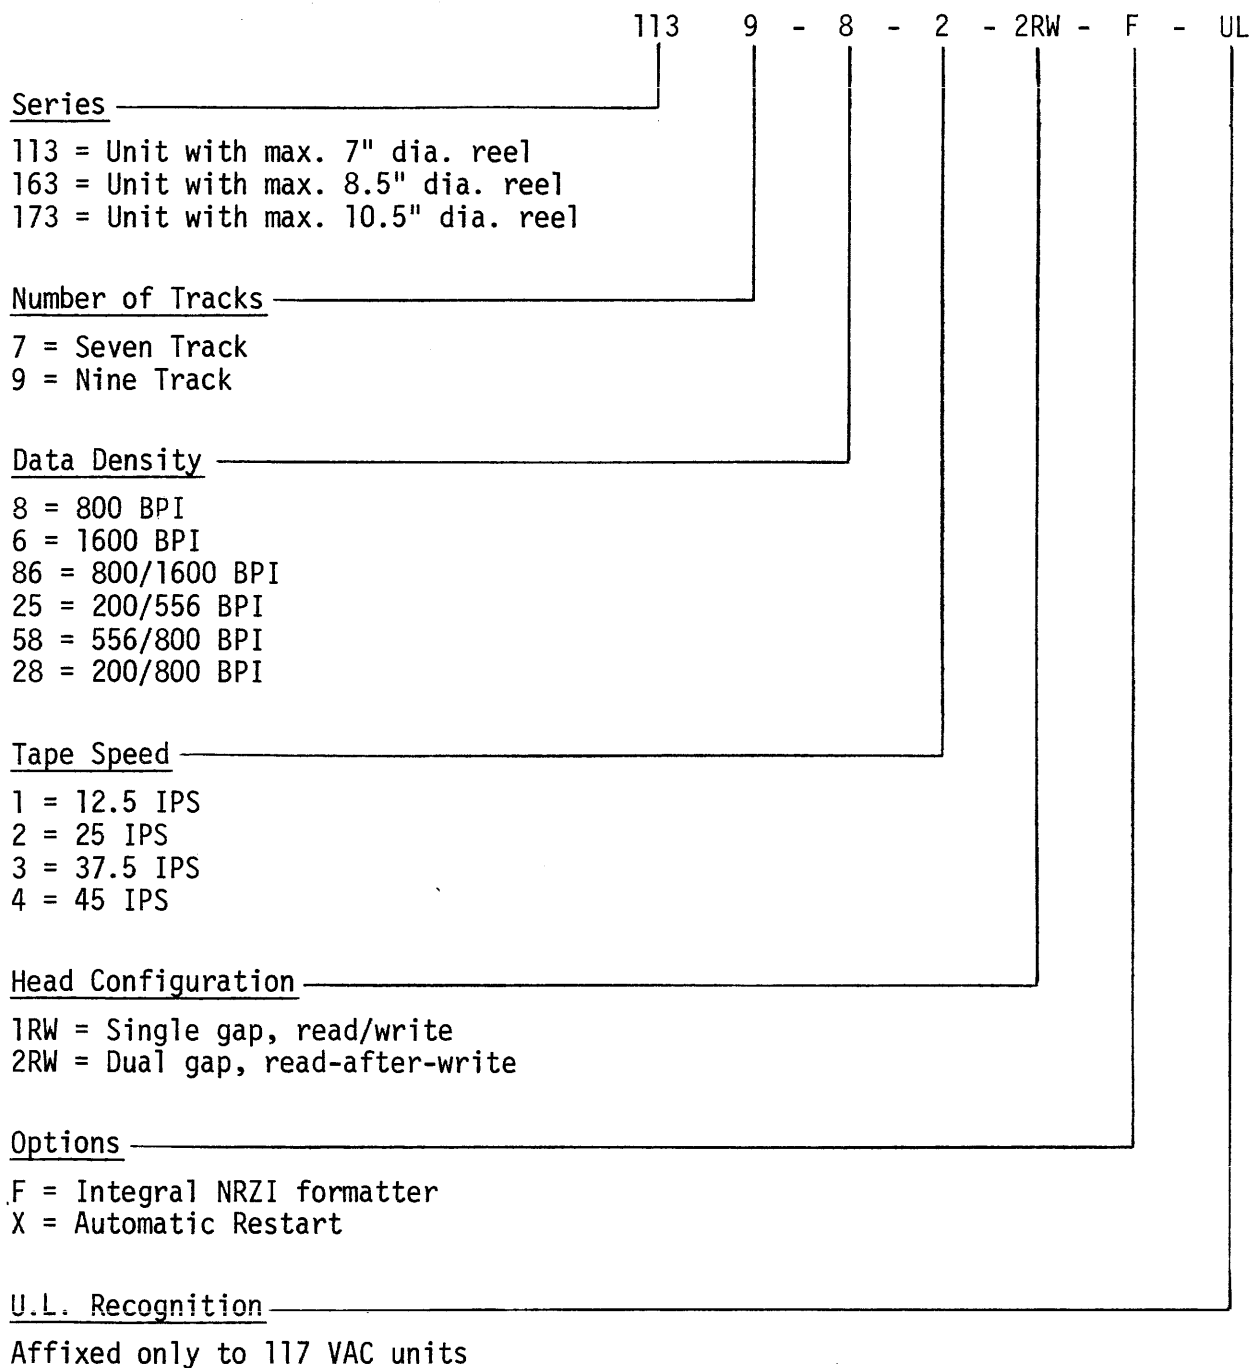

Figure 1-2, MODEL NUMBERING SCHEME
1.3 MODEL NUMBERING SCHEME. The Digi-Data transport model number completely describes the series, number of tracks, data packing density, tape speed, head configuration, and options of a transport. Figure 1-2 delineates the model numbering scheme.